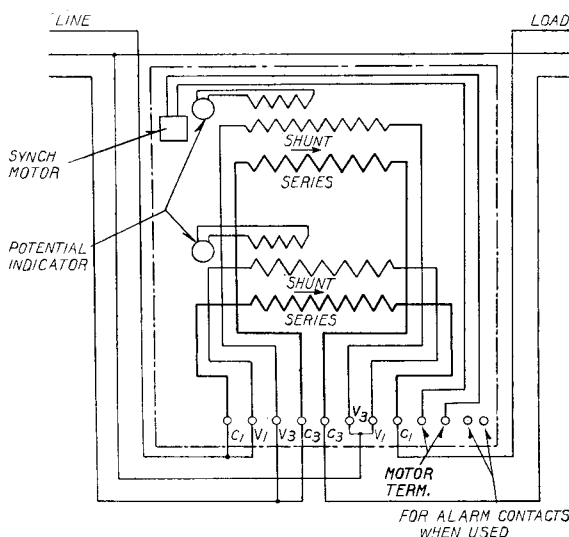

FIG. 9—EXTERNAL CONNECTIONS, 2 OR 3 PHASE, 3-WIRE WITHOUT TRANSFORMERS
11. Support the meter in a vertical position, removing all shipping cords and tags. After the meter has been mounted and electrically connected according to one of the diagrams in Figs. 9 to 13, remove the small pieces of paper used to secure the disc shaft during shipment. The small ink reservoir of the inking device should be filled with the special ink provided with the meter. Other inks may evaporate too quickly or clog the pen.